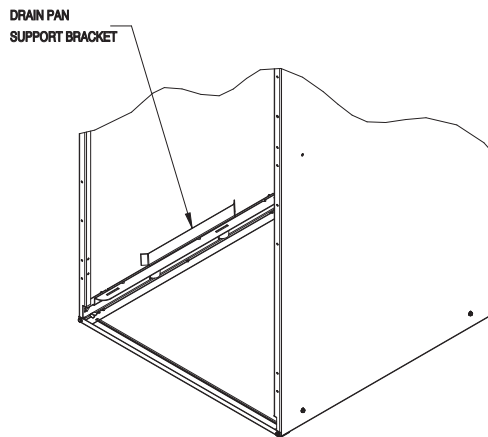

Fig. 7 – Drain Pan Support Bracket
5. Remove horizontal drain pan support bracket from coil support rail on left side of unit and reinstall on coil support rail on right side of unit (Fig. 7).